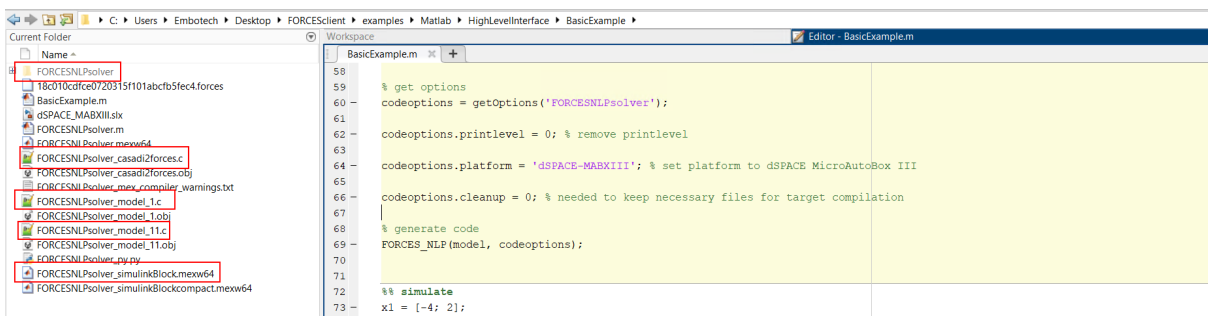
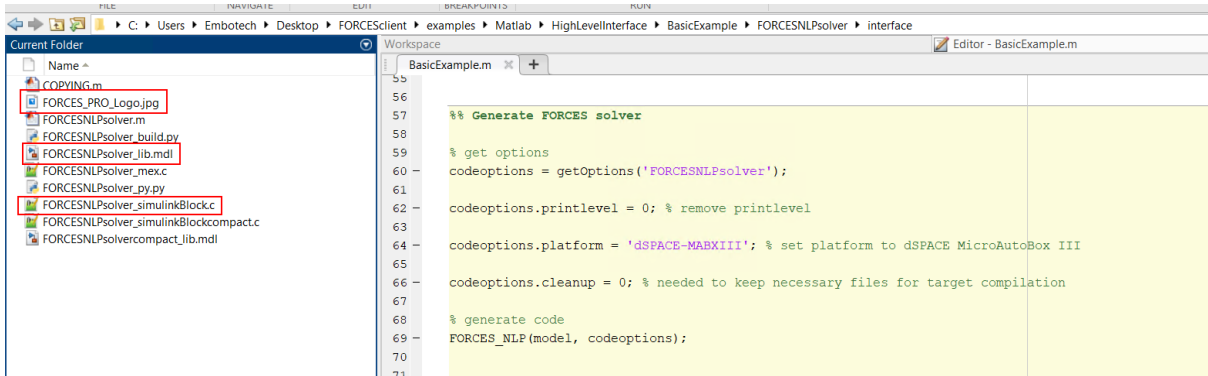
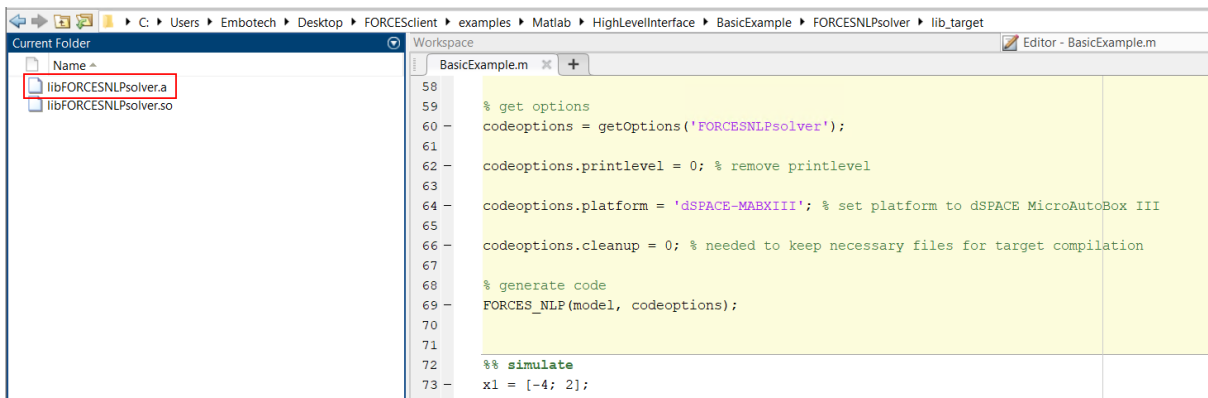

Figure 12.58: Generated files.
Figure 12.59: Solver interface files.
Figure 12.60: Solver libraries.
- 4) Run the `BasicExample.m` script to perform code generation for your solver (henceforth referred to as `FORCESNLPsolver`, placed in the folder “BasicExample”). This will create the necessary files for your building (see Figure 12.58, Figure 12.59 and Figure 12.60).